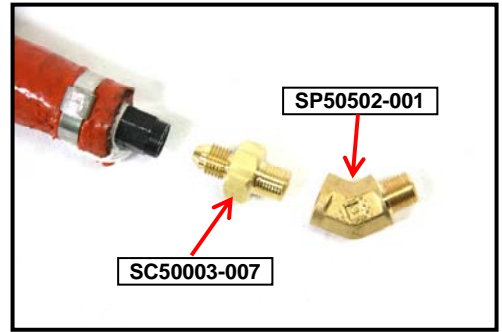

Figure 1 – Engine Fittings
4. Remove the engine fitting and replace with one of the following: (see Figure 1).